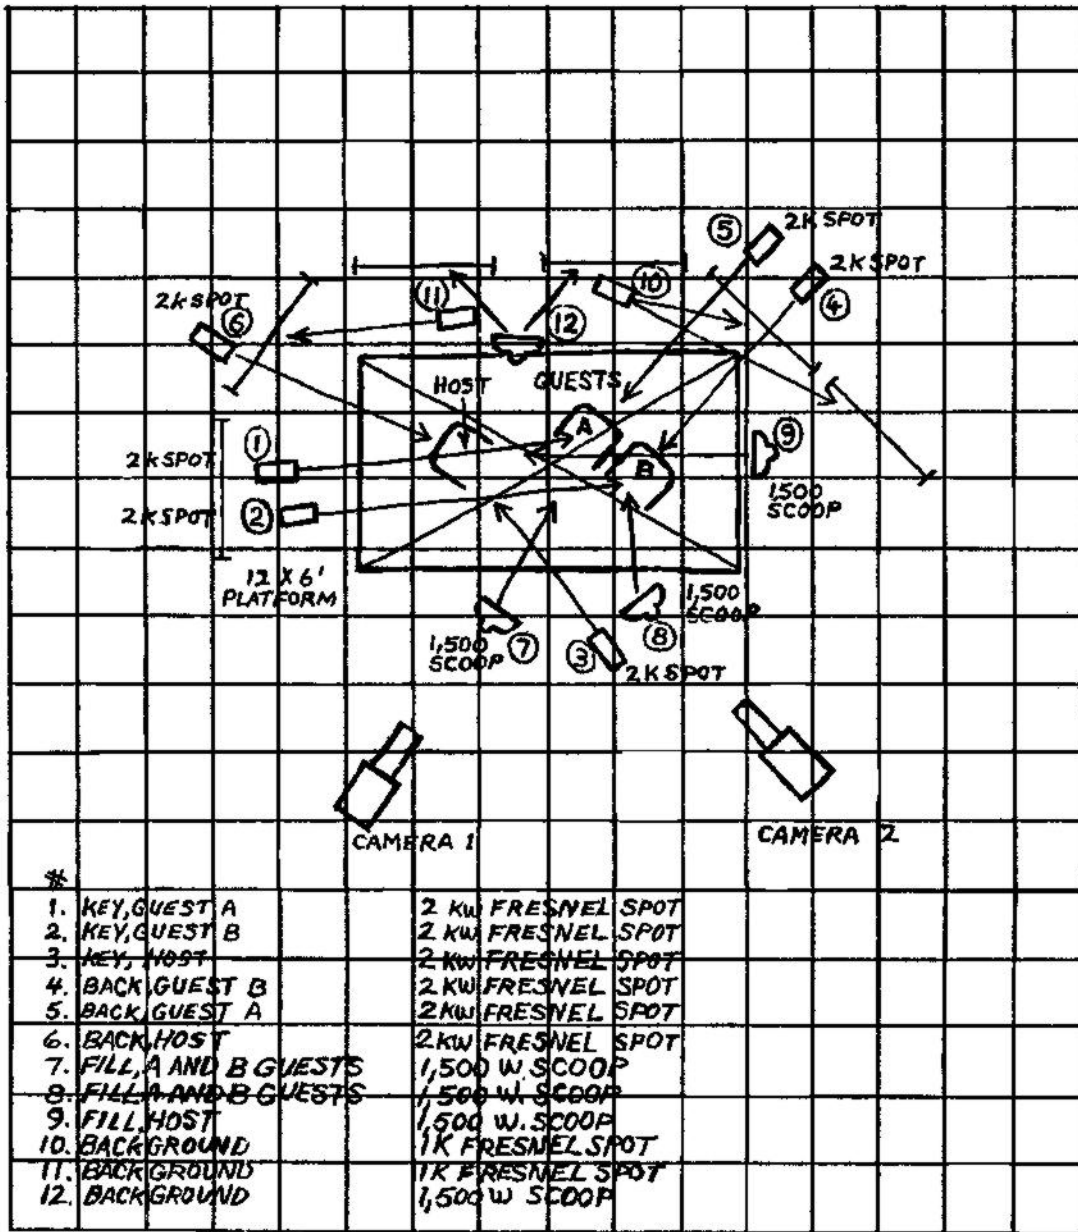

Figure I-11A. Light Plot
c. Examples of a completed light plot for a simple studio interview are seen in Figure I-11A and I-11B.